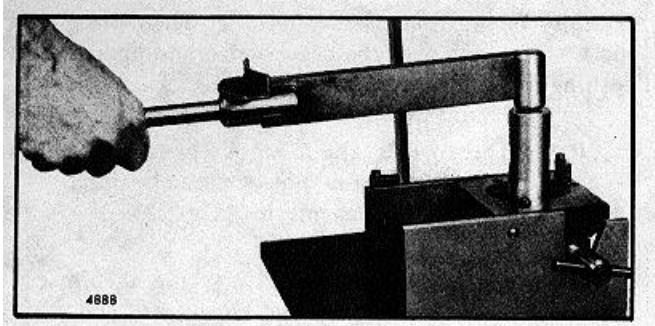

Fig. 41.- Tightening Injector Nut With Torque Wrench
9. Use socket J 4983-01 and a torque wrench to tighten the injector nut to 75-85 lb-ft (102-115 Nm) torque (Fig. 41).